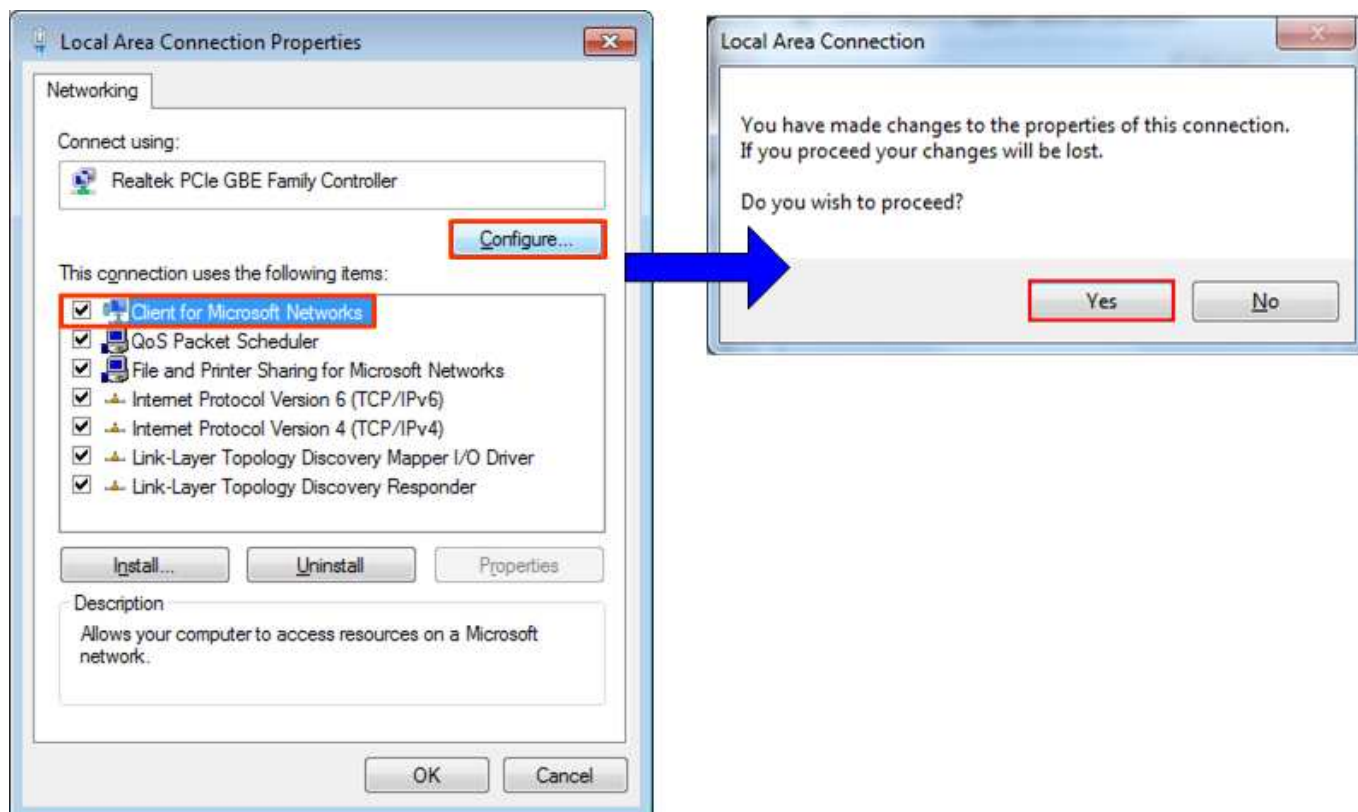

Figure 3 Network Configure
- On Local Area Connection Properties window, select “Client for Microsoft Networks”, and then click “Configure”, as shown in Figure 3.